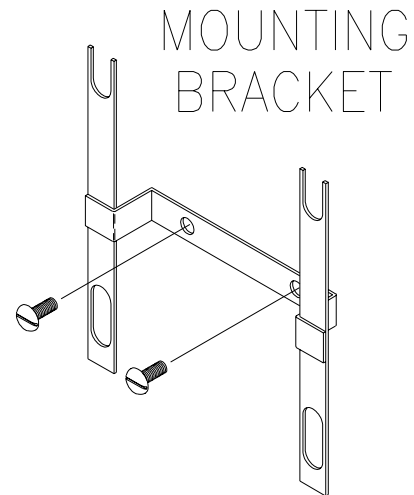

Figure 3. Mounting Bracket
3. Remove the mounting bracket from the rear of the AutoSwitch Console by removing the nuts at the bottom of the bracket. Place the upper edge of the bracket cross-member on the horizontal line so that it is centered with the vertical line. Holding the bracket with the slotted extensions away from the wall, mark the location of the two mounting bolts (Figure 3)